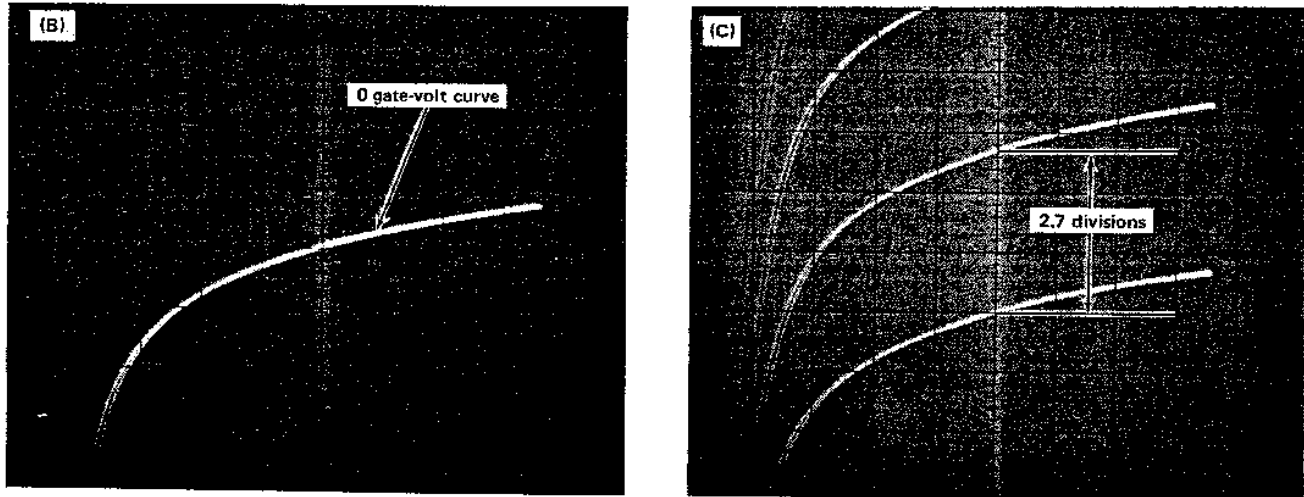

Fig. 14B, C. Illustration of step 19,  $g_m$  calculation (cont).
19. Position the zero gate volts curve to graticule center as shown in Fig. 14B. Pull the VERT 10X MAG (POSITION) knob and position the display to a convenient area of the graticule as shown in Fig. 14C. Press the STEP FAMILY REP button and reposition the display as necessary.